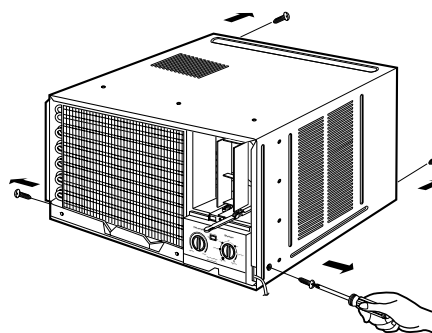

Figure 17
2. Remove the two screws which fasten the cabinet at back. (See Fig. 17)